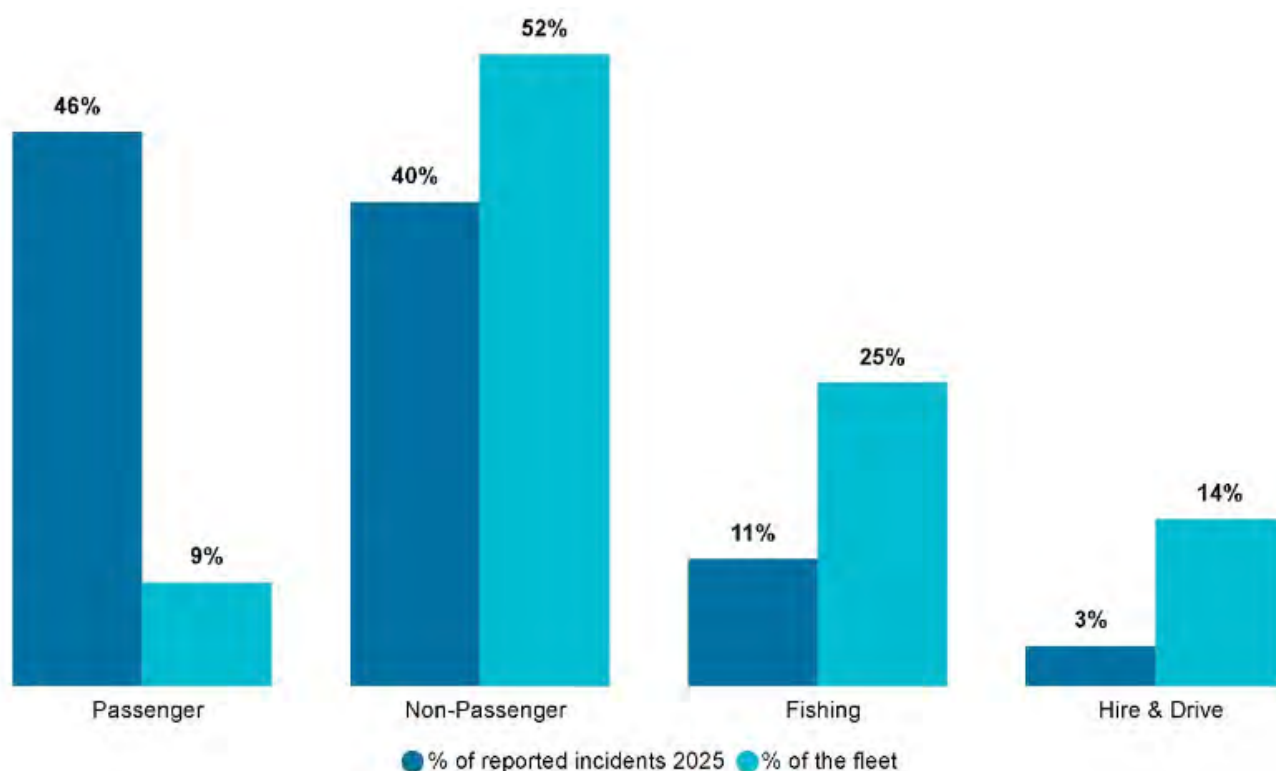

Figure 3: Proportion of marine incidents reported and vessels by class⁵ (2025)
- ❑ When considering marine incident reports by vessel class, Figures 3 and 4 indicate notable differences in reporting patterns across the DCV fleet.
Figure 3 shows the proportion of marine incidents reported and vessels by class for 2025².